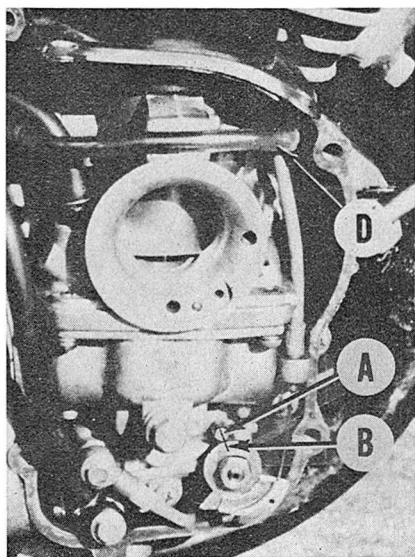

Fig. K4-7 — Marks (A&B) should align when throttle is in idle position on F6, F7 and F8 models.
Make certain that vent line (D—Fig. K4-7) is not crimped or obstructed as this will cause flooding.
Oil pumps on F6, F7 and F8 models should be adjusted so that marks (A&B—Fig. K4-7) are aligned with throttle in the idle position. Oil pump on F5 models should be adjusted with throttle wide open. Dot (B—Fig. K4-7A) should align with mark (A) at this point. Slack should be taken from throttle cables on all models before oil pump adjustment is made. Cable adjusters are located under fuel tank.